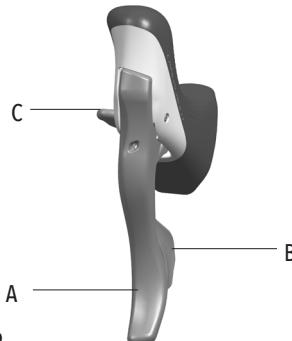

Fig.9
- Lever B (Fig. 9) on the left-hand control operates the front derailleur, lifting the chain onto the next highest chainring. Lever B (Fig. 9) may be moved by 1, 2 or 3 clicks, depending on the derailleur cage position when the chain is positioned on the smaller chainring.
- Lever C (Fig. 9) operates the front derailleur, dropping the chain onto the next lowest chainring. Derailleur shifts to smaller chainrings are performed by pulling the lever by 1 clicks in a single movement.
- Once the chain is on the smaller chainring, lever B or C (Fig. 9) of the left-hand control can be moved by 1 click to attain a more precise alignment between the chain and the derailleur cage.